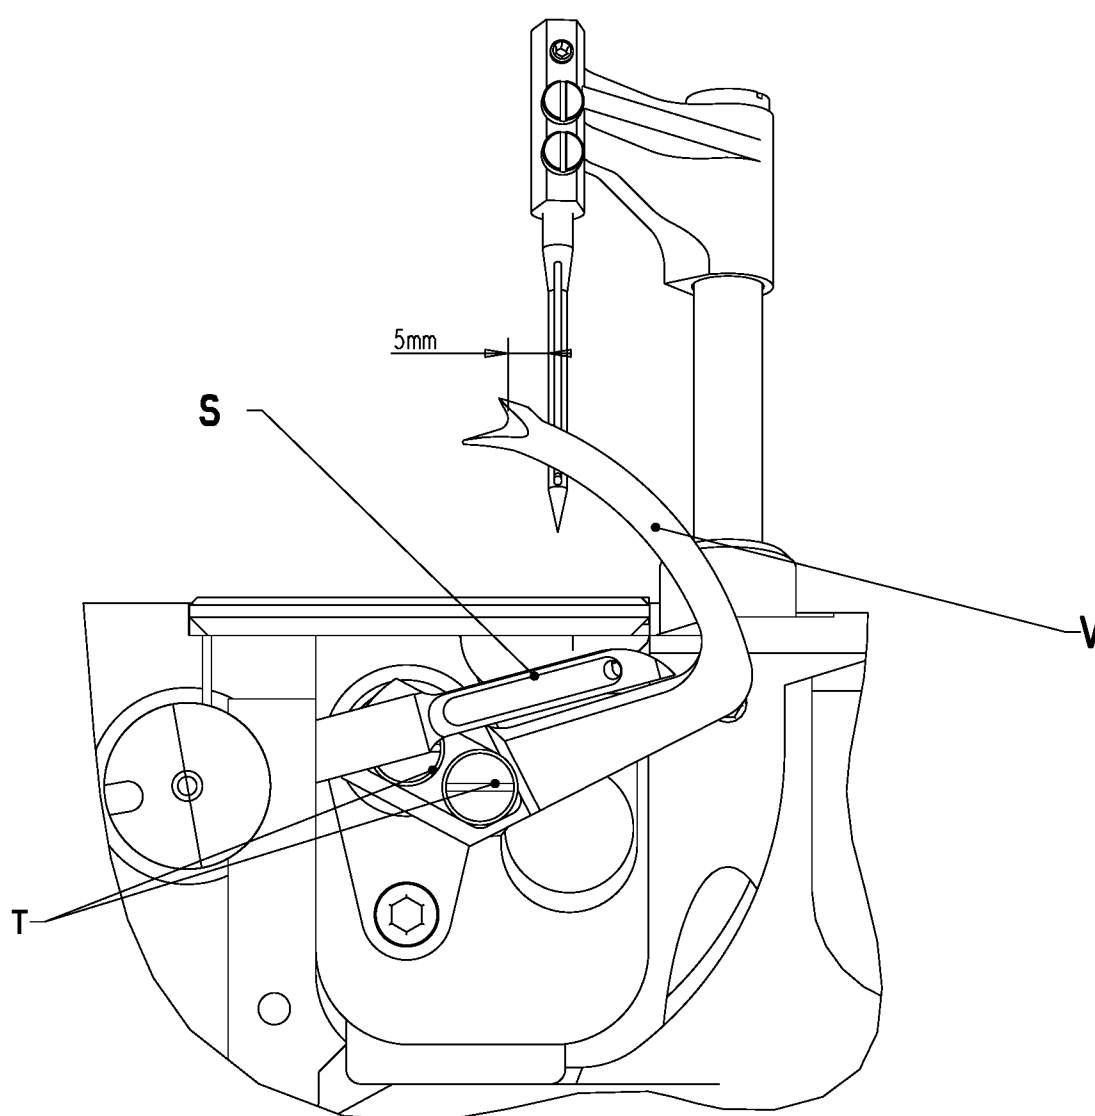

FIG 4.4
- Turn the handwheel by hand and push the lower looper to its furthestmost backward position. This action will give the operator access to the screws **T** (FIG 4.4).
- Make sure the outer end of the upper looper extends for 5mm beyond the edge of the needle, as illustrated in figure 4.4.
If this is not the case, adjust correct position via the screws **T** as in figure 4.4.
Loosen the **T** screws (figure 4.4) and turn the hand-wheel by hand for the upper looper to reach the top of its stroke (highest position).